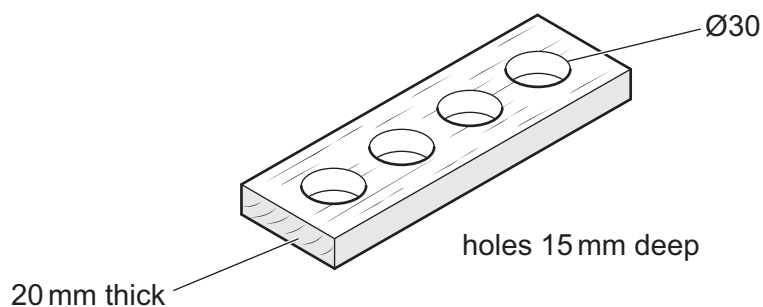

Fig. 11.4
- (e) Fig. 11.4 shows the block, made of beech, that is used to store the four weights.